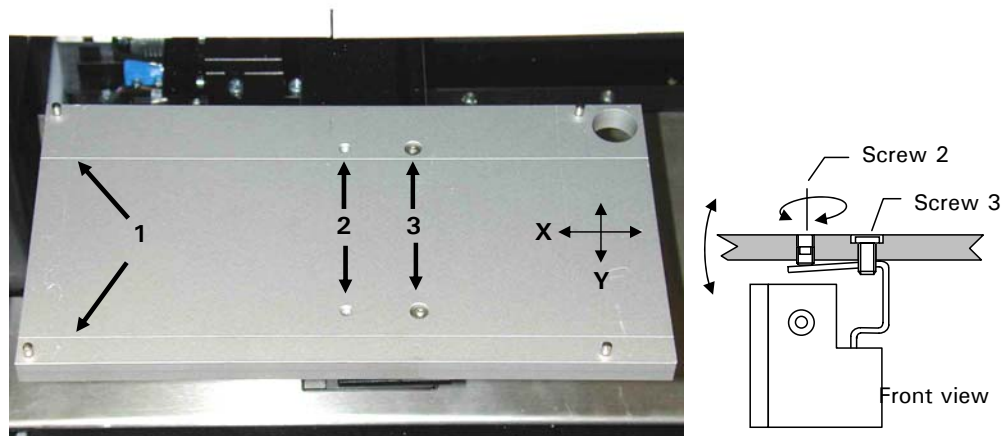

FIGURE C-13 Adjusting the X-direction
- b) Lift the table and position the table so that one of the two small grooves (item 1, FIGURE C-13) is located directly under the needle tip. Adjust the distance between the needle tip and the table to approximately 0.1 mm (0.004 inch, use the camera for positioning, if available).
- a) Loosen the two screws labeled '3' in FIGURE C-13.
- b) Turn the two screws labeled '2' in FIGURE C-13 clockwise to lift the table on the left side, turn the screws counterclockwise to lower the table on the left side.
Note: Turn both screws labeled '2' in FIGURE C-13 by the same angle to keep the Y-adjustment (e.g. to lift the table on the left side by 1mm, turn both screws approximately 30 degrees clockwise).
- c) Retighten the screws labeled '3' in FIGURE C-13 and check the X-direction again.